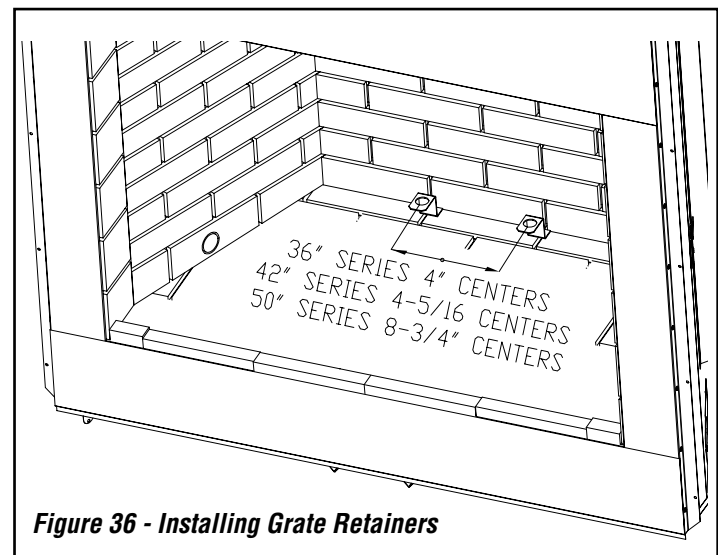

Figure 36 - Installing Grate Retainers
1. Place the provided grate retainers on the hearth as shown in **Figure 36**. The back of the retainer will be flush with the rear firebrick wall. Mark the center of the hole on the hearth with a marker.
2. Position "Z" shape retaining brackets on top of the notched area toward the rear of the bottom brick panel. Grate retaining bracket should be positioned as shown in **Figure 36, Page 17**.